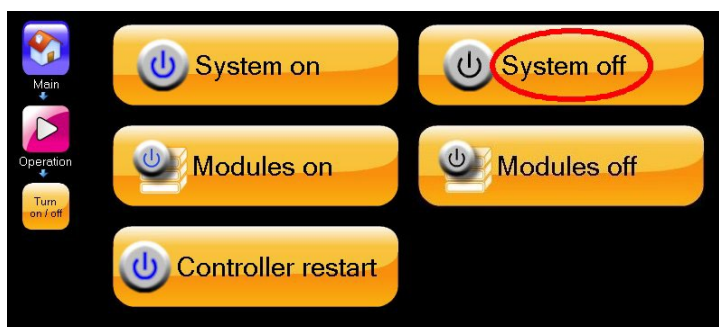

Figure 11: The "Turn off / on" submenu
- Tap the top button labeled "Turn on / off" on the Operation submenu. Another menu appears (Figure 11).